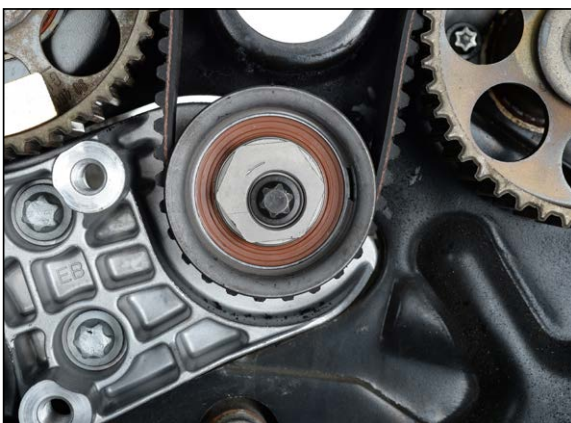

Fig. 18
4. Turn the cam of the top tensioner pulley with chuck key MKM-6038 or water pump pliers in a counterclockwise direction until the top of the cam is at the 11 o'clock position (Fig. 18).